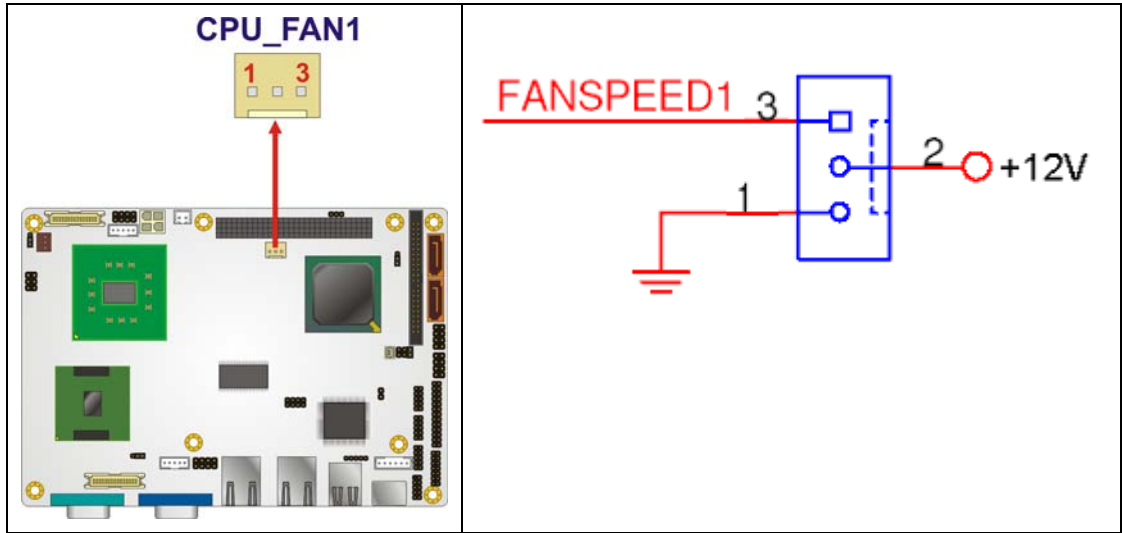

Figure 4-10: +12V Fan Connector Location
- CN Location:** See Figure 4-10